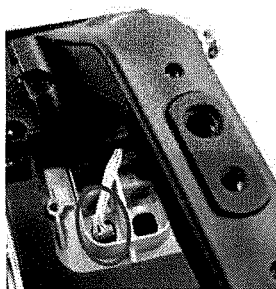

Figure 14-4
1. Pass the wires from HANDLE Unit through hole of SIDE CASE L Unit side as shown in figure 14-4.